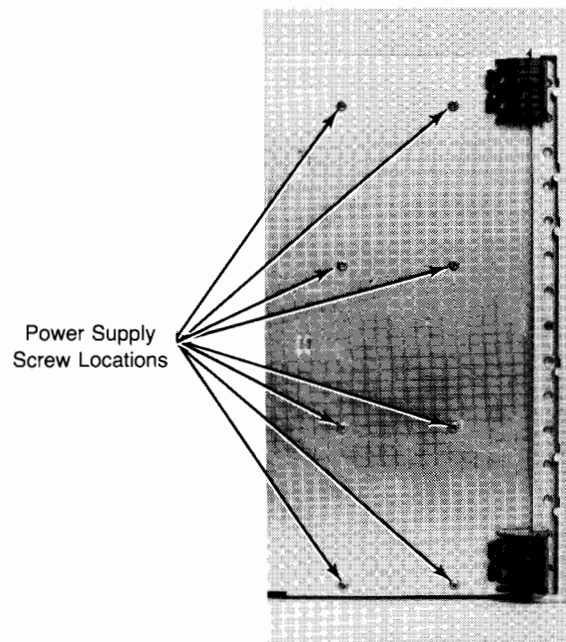

Figure 3-4. Power Supply Mounting Screws
7. Disconnect the backplane connector located in the lower left corner of the backplane board. Replace open fuses. Connect the voltmeter probe to the +5 fuse load connection (see figure 3-4). Reconnect the power cord and turn the expander on. Note the voltmeter reading. Repeat for the +12 V and the -12 V. If the proper voltages are present, the backplane board has a short circuit. Replace the backplane board.
6. Position the expander on its left side. Loosen and remove all the screws holding the power supply to the bottom (See figure 3-4).